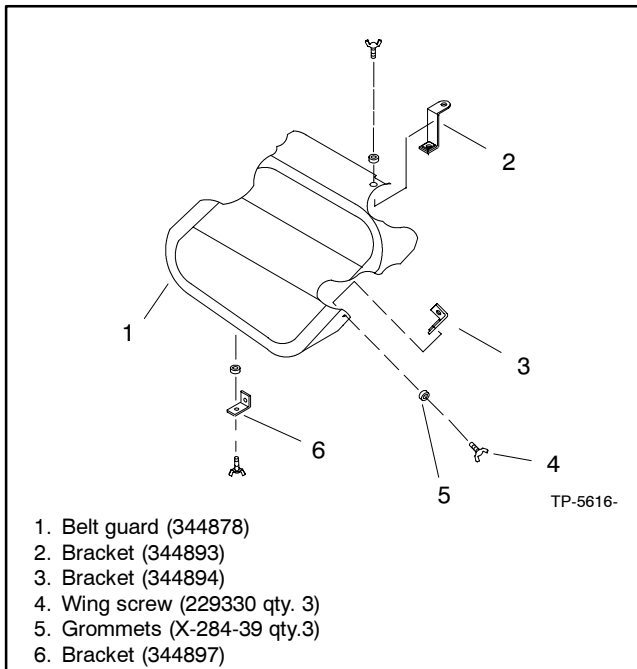

Figure 2 Belt Guard Components
- 1.5 Remove the belt guard (344878), brackets (344893, 344894, and 344897), grommets (X-284-39 qty. 3) and wing screws (229330 qty. 3). See Figure 2.